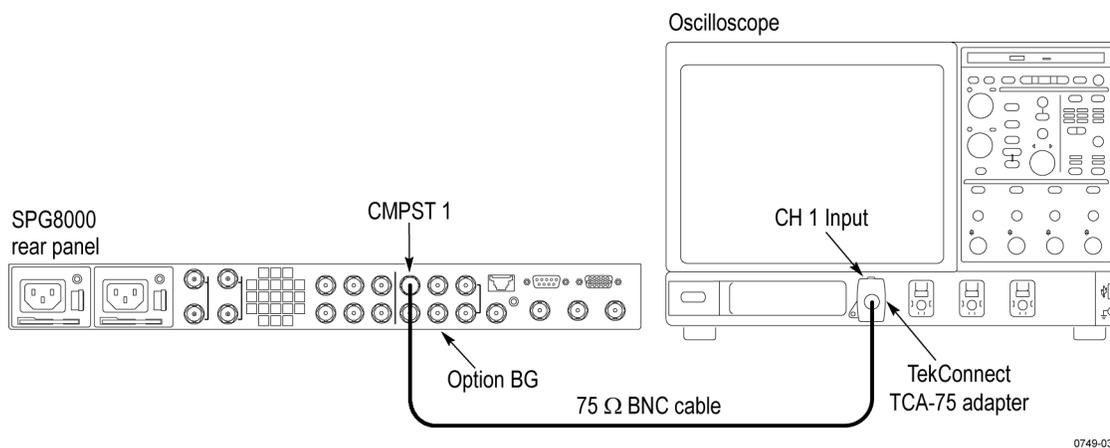

Figure 9: Adjusting chroma gain
3. Use the 75 Ω BNC cable to connect the CMPST 1 connector on the SPG8000 to the CH 1 connector on the oscilloscope, as shown. (See Figure 9.)